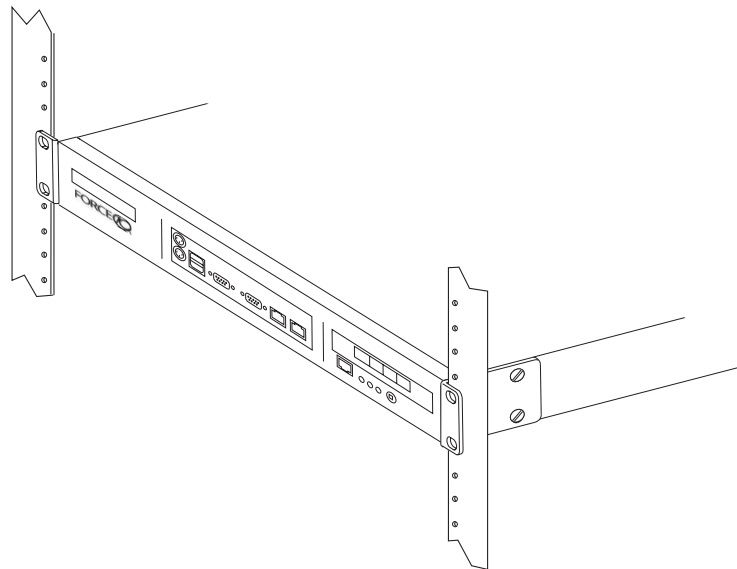

Figure 1 Front-mounting the P-Series Appliance
- 2 Secure the appliance in the rack by inserting screws through the connecting ears on each side of the appliance and into the rack post (see Figure 1).